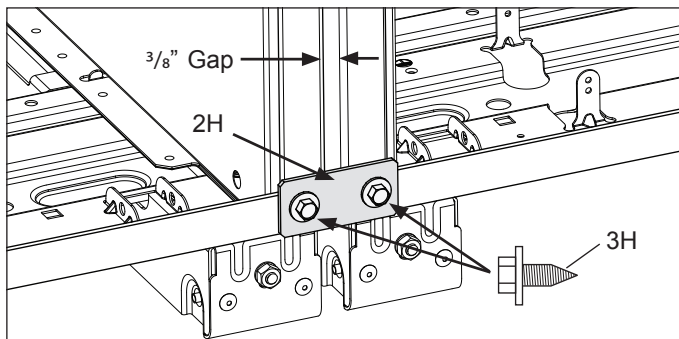

Figure 5
5. a. Tie units together by securing the mounting bracket at the back of the units with a $\frac{3}{8}$ " socket. (See Figure 5).